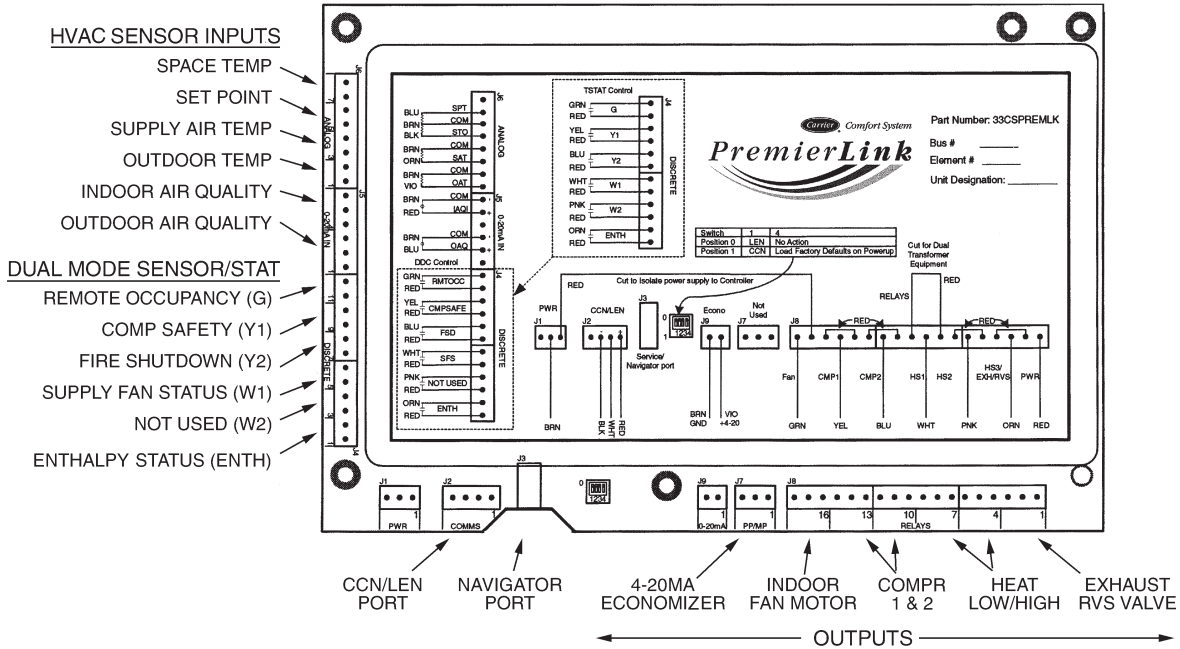

Fig. 28 - PremierLink Controller
The PremierLink controller (see Fig. 28) is compatible with Carrier Comfort Network® (CCN) devices. This control is designed to allow users the access and ability to change factory-defined settings, thus expanding the function of the standard unit control board. CCN service access tools include System Pilot (TM), Touch Pilot (TM) and Service Tool. (Standard tier display tools Navigator™ and Scrolling Marquee are not suitable for use with latest PremierLink controller (Version 2.x).)